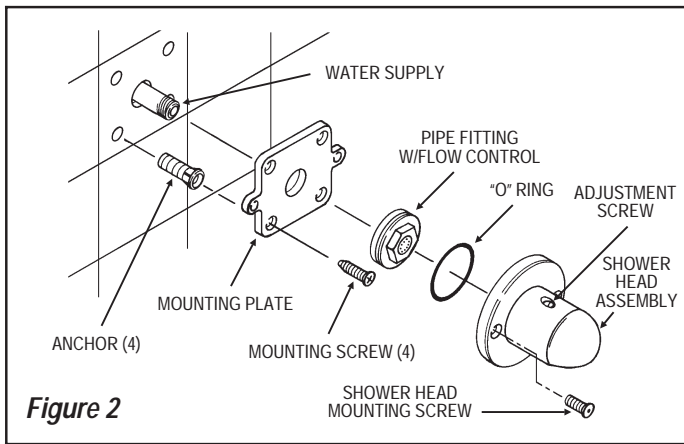

Figure 2
Step 3 — Install Pipe Fitting (Figure 2)
Step 4 — Mount Shower Head Assembly (Figure 2)